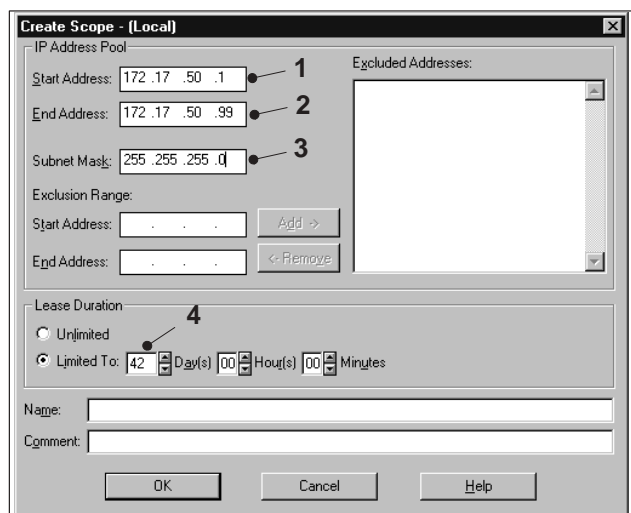

Fig. 10 Create Scope
- 31 Input on the line "Start Address" (Fig. 10/1): **172.17.50.1**
Input on the line "End Address"(Fig. 10/2): **172.17.50.99**
Input on the line "Subnet Mask"(Fig. 10/3): **255.255.255.0**
- 32 Set **Limited to 42 Days** in the field "Lease Duration" (Fig. 10/4).